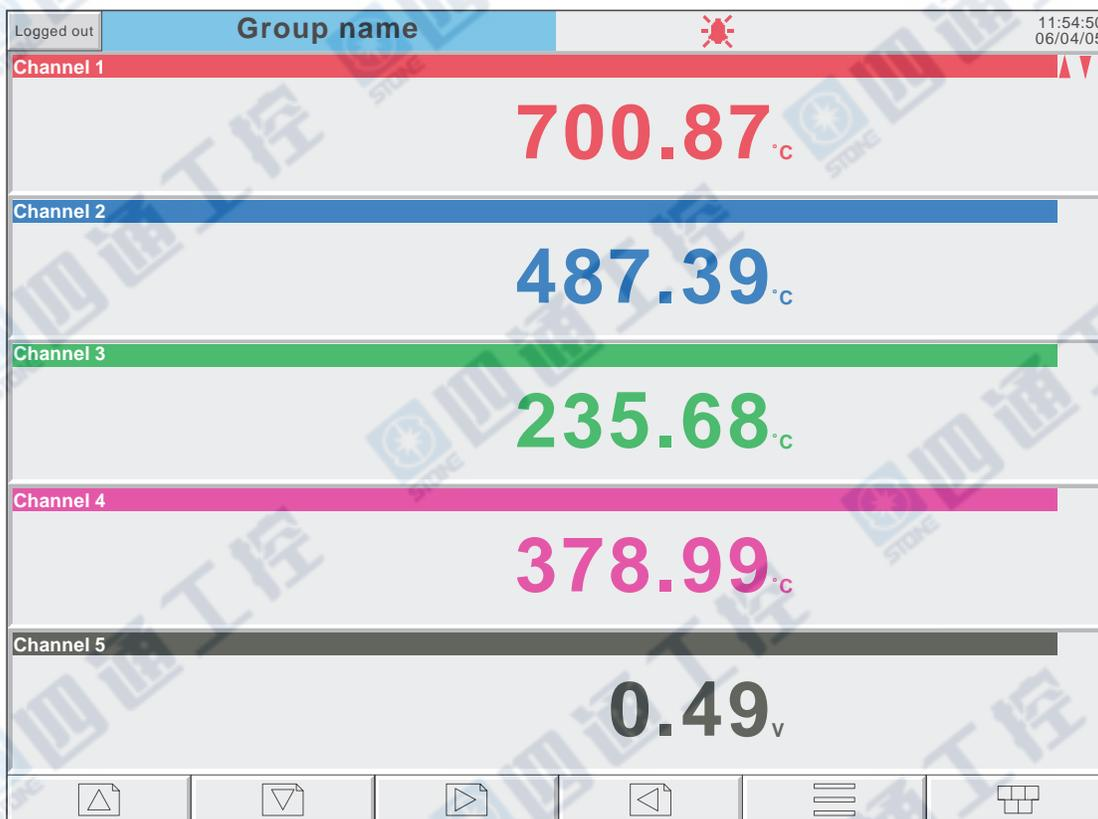
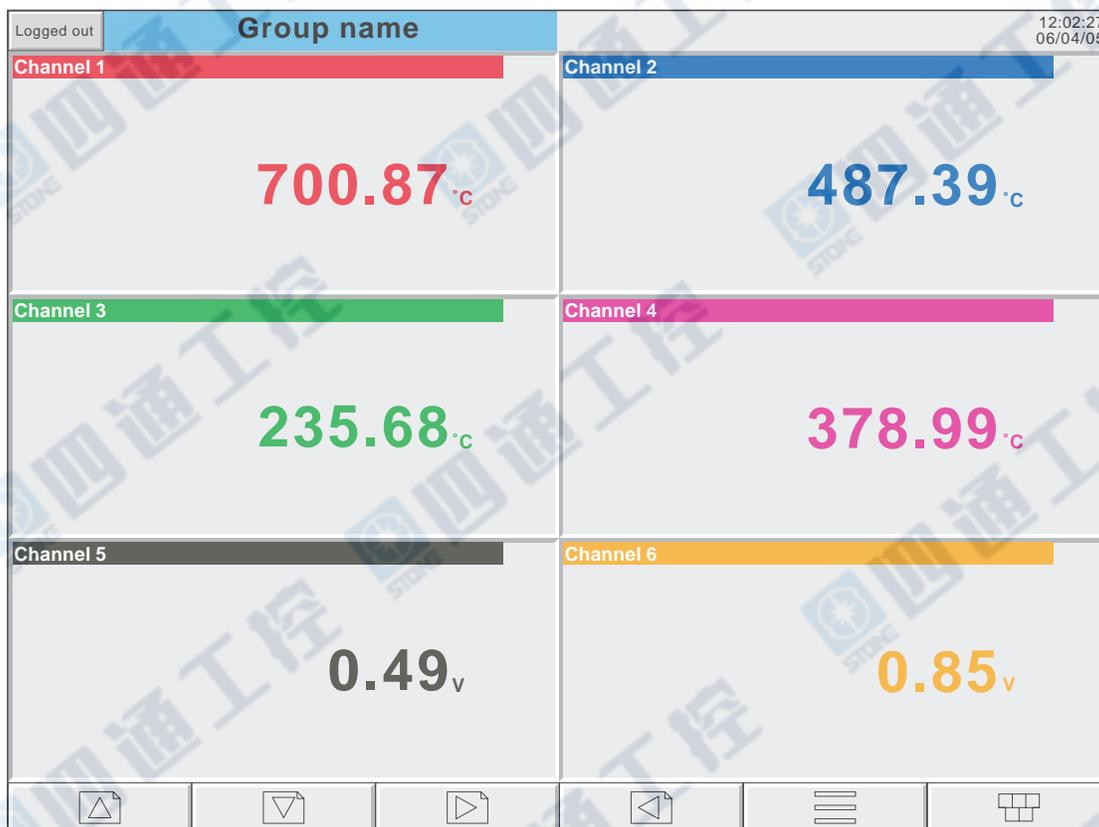
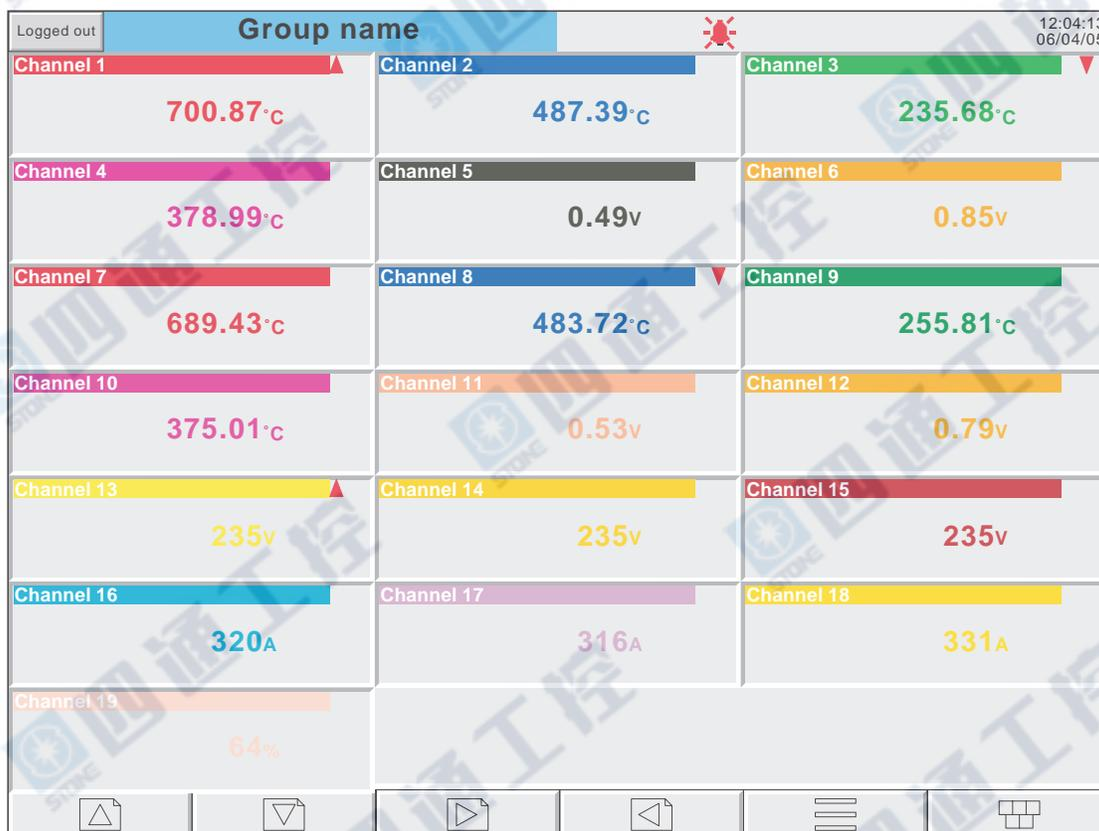

Figure 3.4.6a Numeric display mode (1 to 5 channels example)
Figure 3.4.6b Numeric display mode example (6 channels)
Figure 3.4.6c Numeric display mode example (19 channels)
Normal view is available only for large frame recorders (also small frame recorders when viewed *via* Bridge software). As shown in figure 3.4.6b, below, this provides a view of the chart, together with scale, chart speed, message bar and navigation keys. The figure shows a view with faceplates selected on.
Entered from Horizontal bargraph mode by means of the down arrow key, or selected using the Root Menu 'Goto View' key, this display mode shows the Process Variable (PV) values as digital values. The format (which is automatically selected) is based on the number of channels in the display group. Figures 3.4.6a, 3.4.6b and 3.4.6c, show typical (large frame) examples of the one, two and three column versions of this display mode respectively. Within each version, the process variable display areas expand or contract to fill the screen.
Note: Figures 3.4.6a, b and c apply to the large frame instrument. For the small frame instrument, the single column display (figure 3.4.6a) is used for groups with up to four points enabled, and the two column display (figure 3.4.6b) is used, with scroll bar if necessary, for groups with more than four points. The small frame recorder does not employ a three-column mode (figure 3.4.6c).